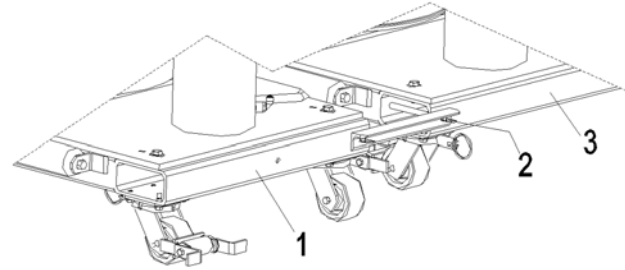

Fig. 4
Insert Pins into DC12 frame. Refer to **Fig. 4**
4. Remove Pins connecting Tandem Frame to machine base frame. Refer to **Fig. 4**.